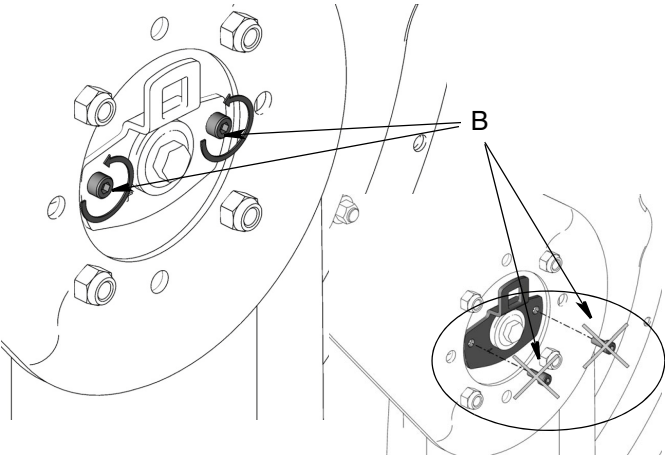

FIG. 19
2. Loosen screws (B) approximately 3 to 5 turns. **Do not remove screws (B) yet** (FIG. 19).